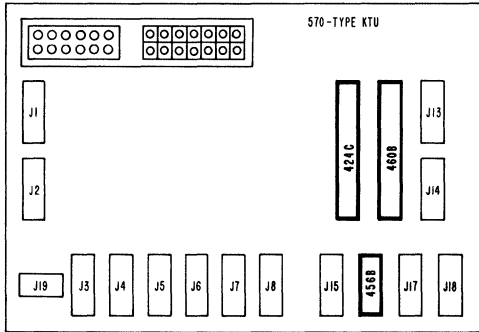

Fig. 24—Location of 424C, 456B, and 460B KTUs, 2-Path Intercom
4.24 Intercom is factory-wired, requiring the 424C, 456B, and 460B KTUs. See Fig. 24 for KTU locations in the KSU. The intercom code of a station is determined by the column on connecting blocks 3, 4, or 5 on which the station cable is terminated. See paragraph 3.05(8) and Fig. 16.